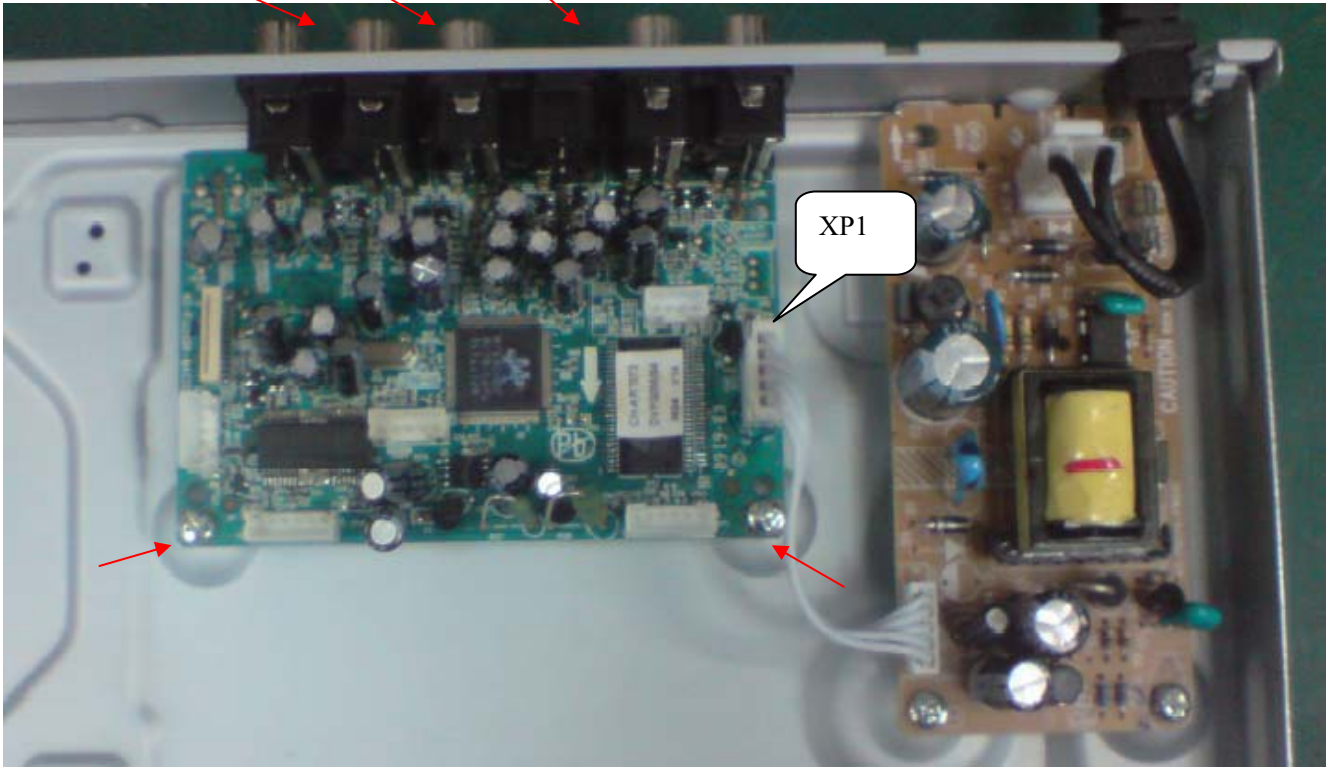

Figure 7
Step6: Dismantling Main Board, first disconnect the connector (XP1), and then remove 5 screws. (Figure 7)